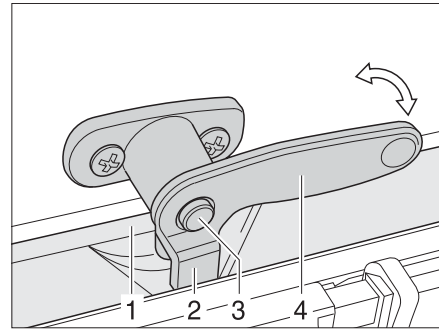

Fig. 70 Catch lever with safety knob in "closed" position
- If it exists, press the safety knob (Fig. 70,3) down and hold it.